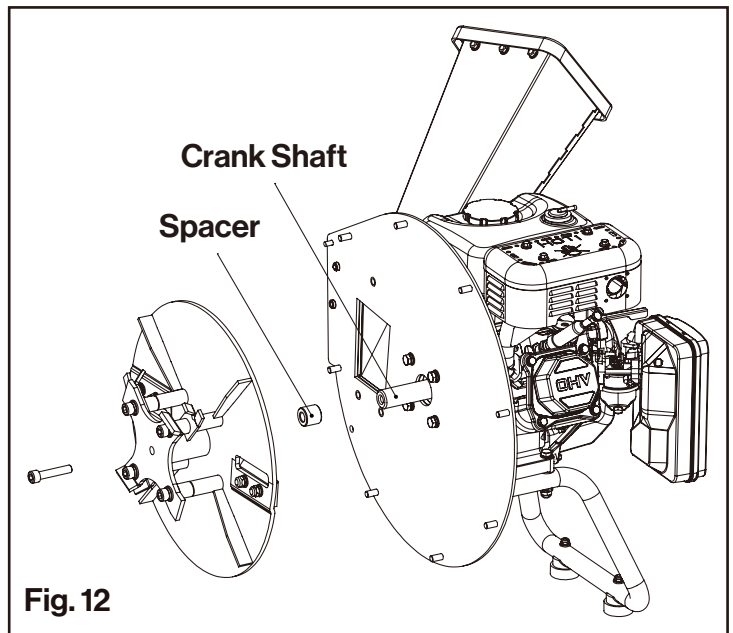

Fig. 12
4. Remove the rotor by removing the hardware that secures it to the engine crank shaft. (**Fig.12**).